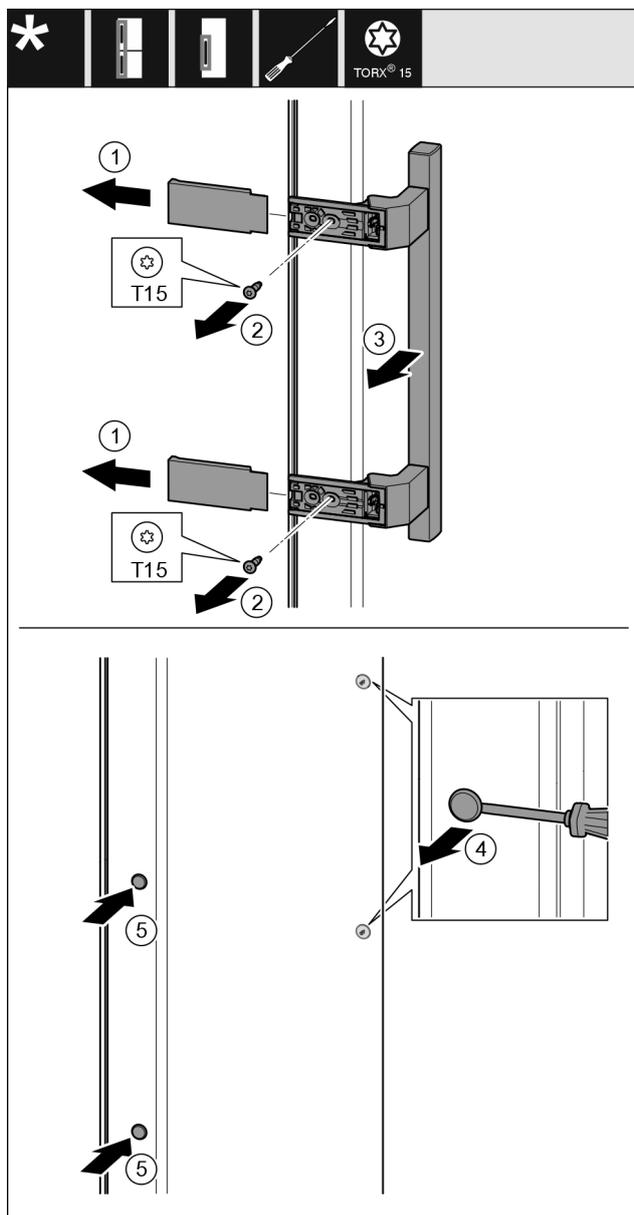

Fig. 54
- ▶ Remove the cover Fig. 54 (1).
- ▶ Unscrew screws Fig. 54 (2) with screwdriver.
- ▶ Remove the handle Fig. 54 (3).
- ▶ Use a slotted screwdriver to lift the side plug Fig. 54 (4) carefully and pull it out.
- ▶ Re-insert the plug Fig. 54 (5) on the other side.